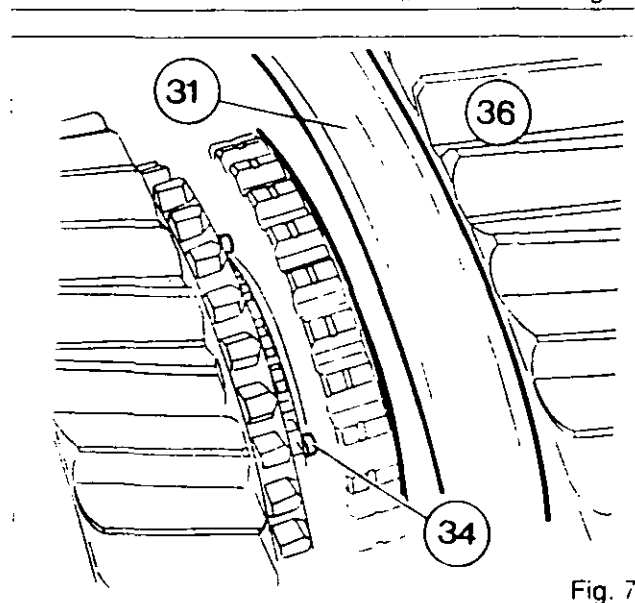

Fig. 7
12. Take off the retainer ring (46).
13. Withdraw bearing cup (48).
14. Take off circlip (45)
16. Remove bearing cone (40).
17. Remove cone (39).
19. Slide the Hi-Lo coupler (31) (Fig. 7) onto the Lo gear (36).
20. Pull shaft (44) towards the rear.
21. Remove spring ring (34) with tool MF460 and discard it (Figs.7 and 8).
23. Through the opening in the selector cover take out: hub (33) and its coupler, gear (29), synchroniser brake (25), the two thrust washers (32), (27) and the Lo gear (36).
**N.B.:** Keep the synchromesh brake (25) paired with gear (29) if they are to be re-used.
24. Remove cup (37).